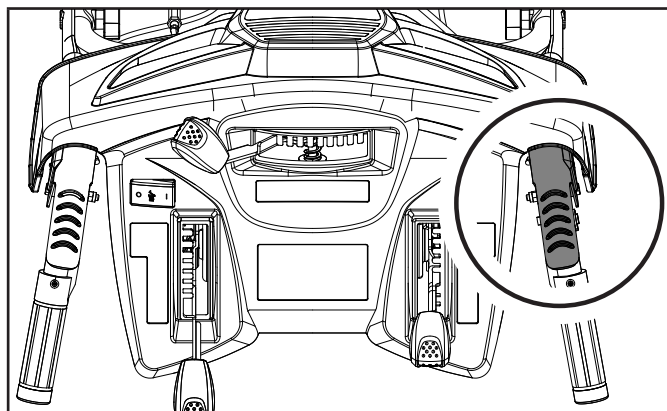

Figure 16
1. Located on the right side (from behind the snowblower). Pushing this lever towards the handle causes the auger and impeller to activate. Releasing the auger control lever causes the auger to stop moving (Fig. 16).